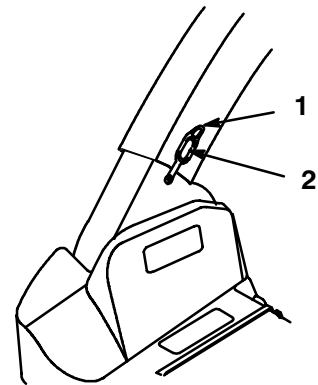

Figure 22
1. Unhook the rubber latch onto the knob (Fig. 22).
2. Slide the lower end of the discharge tube off the blower discharge opening (Fig. 22). Pull the upper end of the discharge tube out of the bagger top.